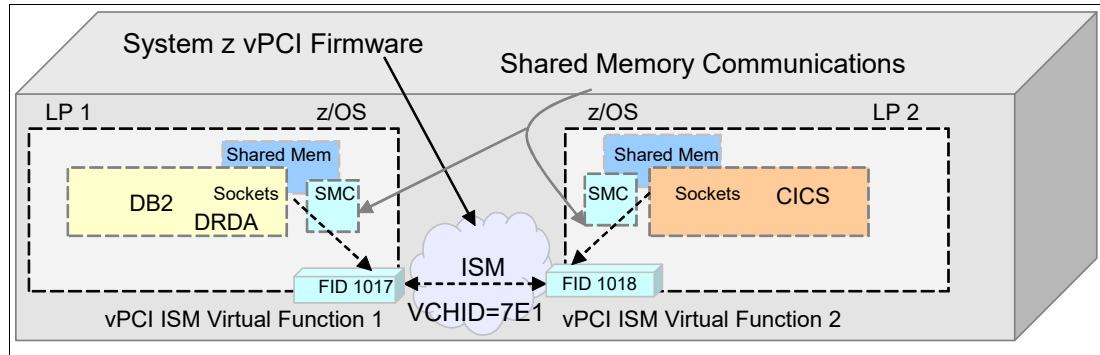

Figure D-17 ISM adapters that are shared between LPARs
The IOCP FUNCTION statements (see Example D-1) describe the configuration that defines ISM adapters that are shared between LPARs on the same CPC, as shown in Figure D-17.
**Note:** On the IOCDS statement, the VCHID is defined as 7E1. As shown in Figure D-17, the ISM network “PNET 1” is referenced by the IOCDS VCHID statement. ISM (as with IQD) does not use physical cards or card slots (PCHID). Instead, only logical (firmware) instances that are defined as VCHIDs in IOCDS are used.